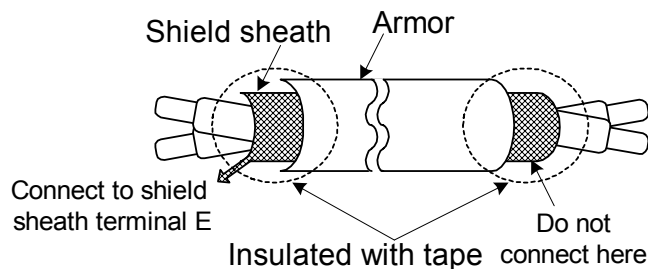

Fig. 3 Processing the ends of twisted-pair cables
- (1) Separate the control circuit wiring from main circuit wiring (R/L1, S/L2, T/L3, U/T1, V/T2, W/T3) and other high-power lines to avoid noise interruption.
- (2) Separate the wiring for control circuit terminals RA-RB-RC (R1A-R2B-R2C) (contact output) from wiring for terminals ① ⑧, A01, A02, GND, DO1, DO2, DOG, 15V(or +12V-, -12V), VIN, AIN, AUX, GND, IP12, IG12, A (+), A (-), S(+) and S(-).
- (3) Use the twisted-pair or shielded twisted-pair cables for control circuits to prevent operating faults. Process the cable ends as shown in Fig. 3. The max. wiring distance should not exceed 50 meter.